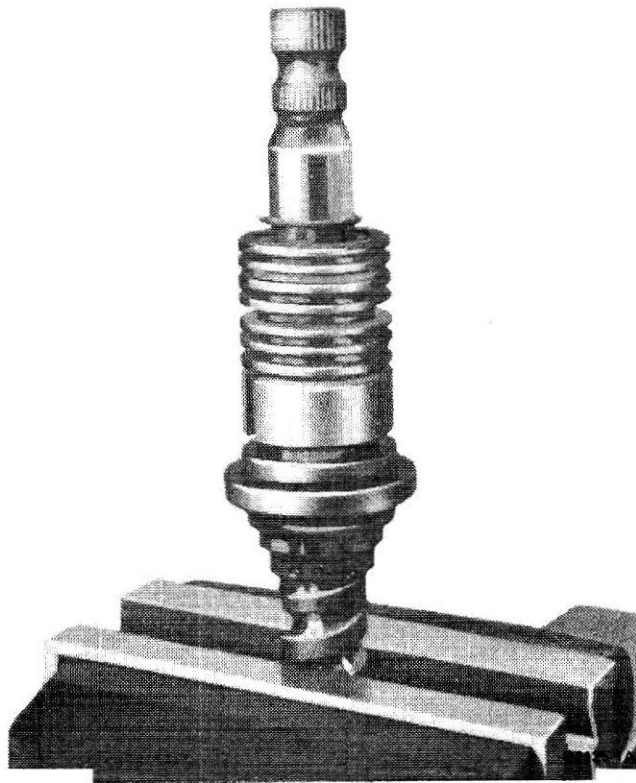

FIG. 14 Worm and Sleeve With Ring Removed
2. Mount the worm end of the worm and valve sleeve assembly into a soft jawed vise (Fig. 14).